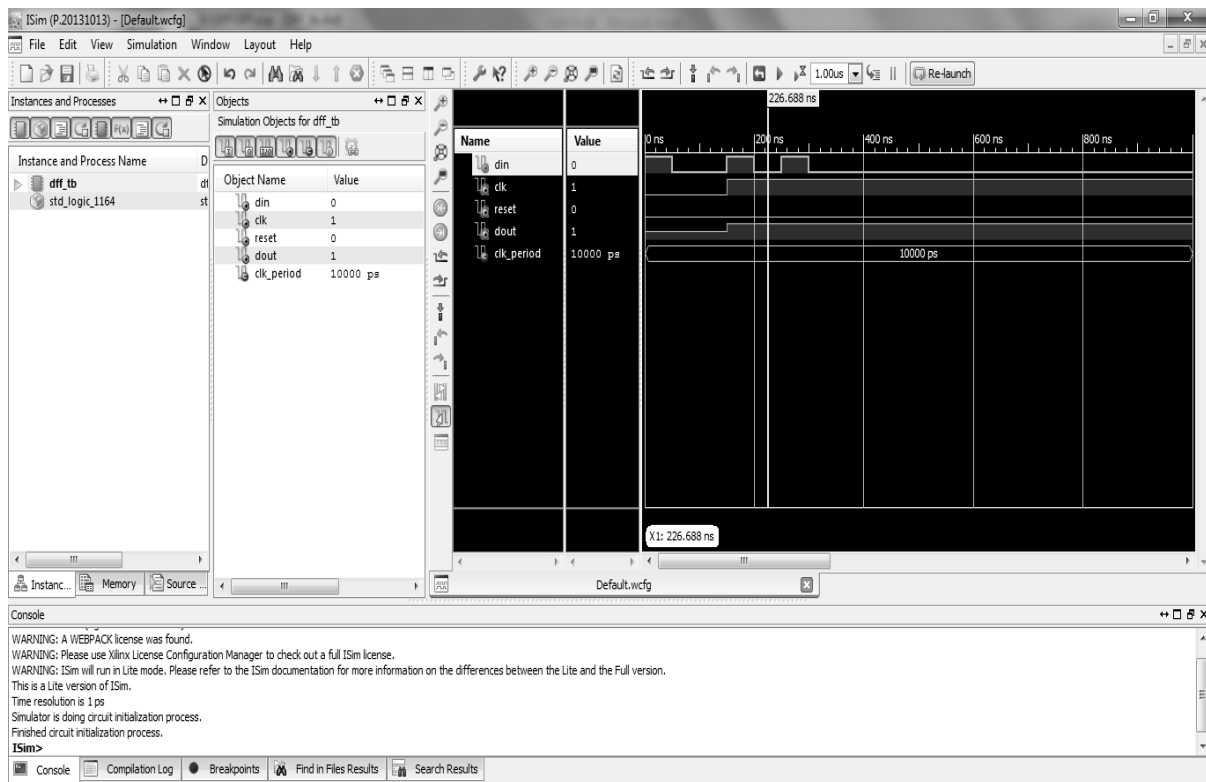

Fig 8.6 DFF Simulation output
9. ISim simulator window will open with your simulation executed, as shown in Fig. 8.6. where you are able to simulate your designs and check for errors.